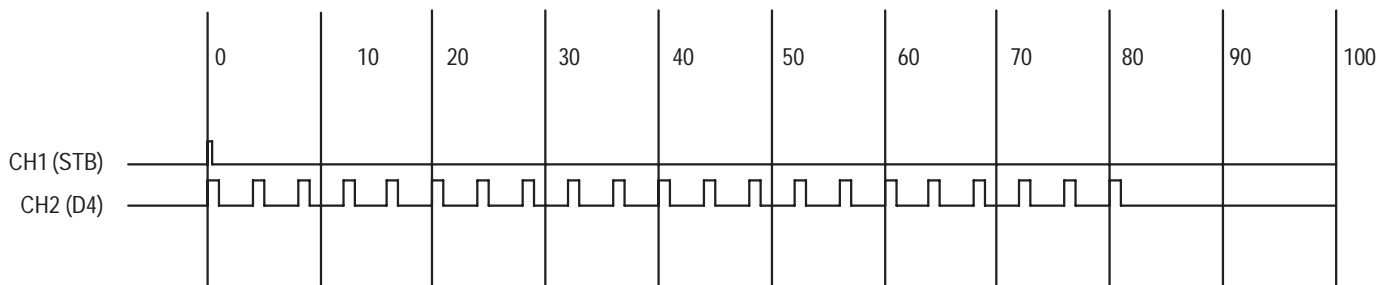

Figure 9–13: Timing chart for the maximum operating frequency check
6. Verify that the data pattern output from the pattern generator probes is similar to the waveform in Figure 9–13 (ignore the small amount of timing skew between the channels).